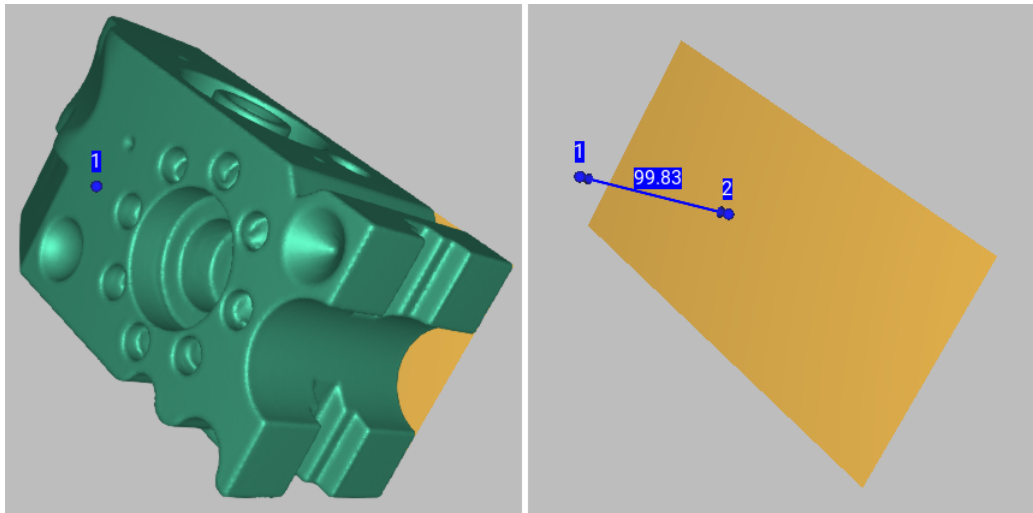

Figure 179: Thickness measurement: selecting a point on the side opposite to the plane (left), clicking the plane to determine distance to it (right).
1. In the *Construct* panel, build a plane (shown in orange in Figure 179) that fits the side surface of the model (find out in Constructing CAD Primitives how to do this).
4. Select any point on the side of the model opposite to the plane (Point 1 in Figure 179, left).
Artec Studio will automatically construct a perpendicular to the plane, determine the point of their intersection (Point 2 in Figure 179, right), and calculate the distance between the two points. This distance gives you the thickness of the model.